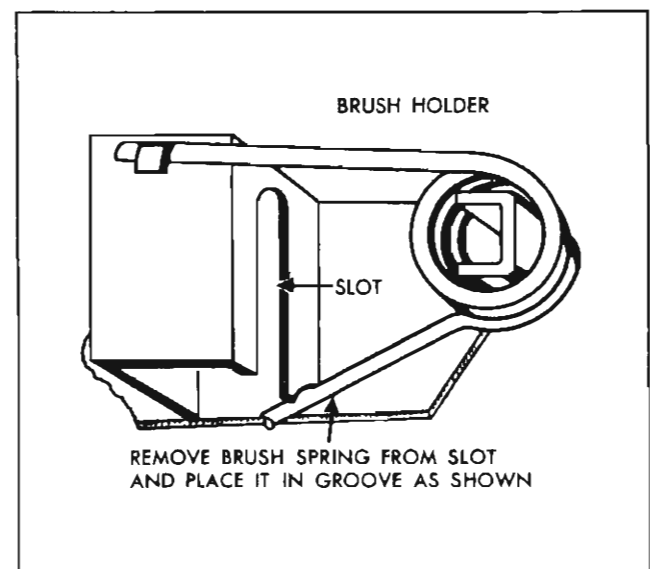

Fig. 11-65 Brush Spring
- c. Brush springs improperly positioned (See Fig. 11-65).
3. Release brush spring pressure against brushes as shown in Fig. 11-65.